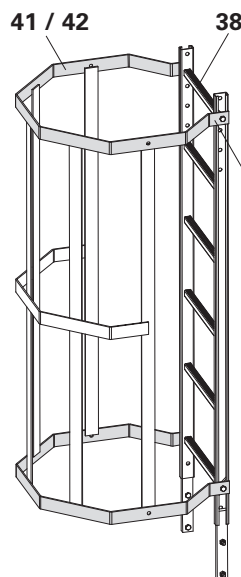

Fig. A2.23
3. Fasten Safety Cage 2x below - as above, see Point 2. (Fig. A2.23 - shown without Hatch)